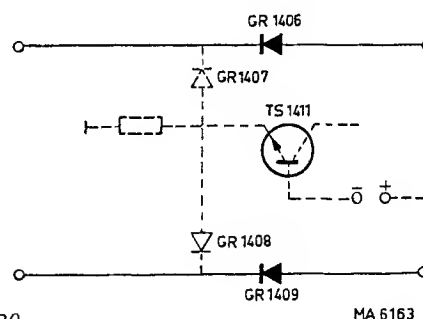

Fig. 20.
The same applies to the emitter voltage of transistor TS411. If this voltage is low, the signal currents reach the input of the common amplifier (Fig. 20).
1. Base TS411 negative (Fig. 20):